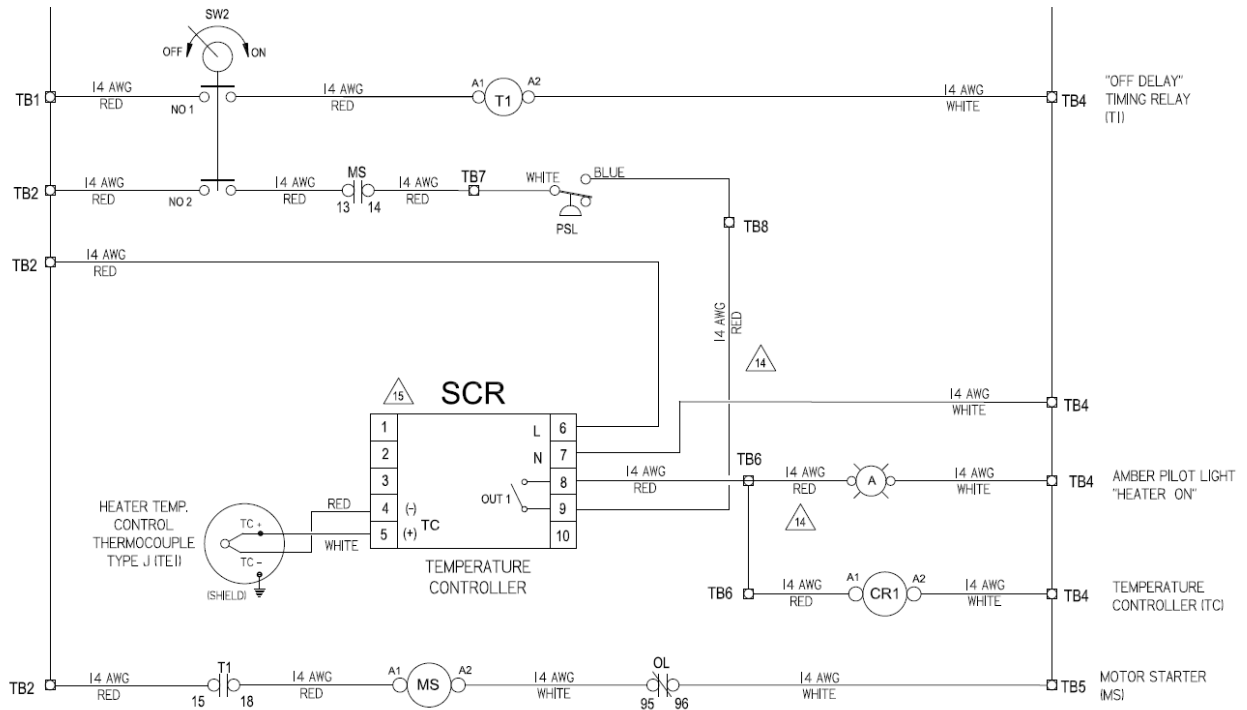

FIGURE 1
SW2 from figure 1 below, SW2 has two separate functions;
Activating the timer (T1) causes its normally open contact 15/18 to close on Rung 4. Voltage is then applied to A1 coil of the motor starter (MS) on Rung 4, which starts the motor **See Figure 1 below**.
2nd. Closing switch SW2 completes the circuit through contact NO2, applying voltage to MS 13/14 auxiliary contact, which was closed when the motor starter coil A1/A2 on Rung 4 was energized. (see Figure 1).